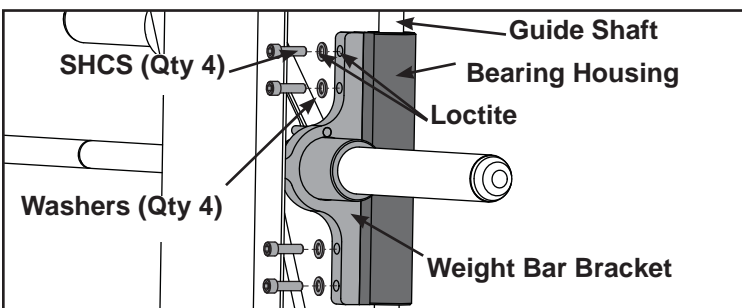

Figure 5
C. Slide bearing housing up (located at bottom of guide shaft) and align holes with weight bar bracket. See Figure 5.
- E. Place a small drop of loctite on the four SHCS and in threaded holes of weight bar bracket. See Figure 5.